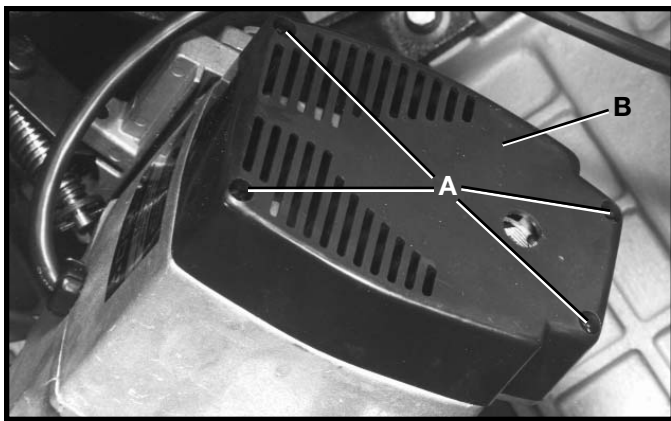

Fig. 65
4. Remove the four screws (A) Fig. 65, and cover (B) from the end of the motor housing.